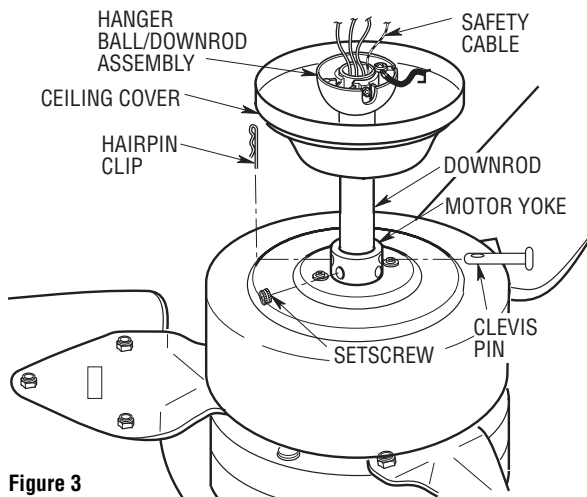

Figure 3
- 4. Route the three motor leads and the safety cable through the center hole in the ceiling cover and position the ceiling cover over the motor yoke (Figure 3).
- 5. Separate, untwist and unkink the three motor leads and the safety cable, then route them through the hanger ball/downrod assembly and seat the downrod in the motor yoke (Figure 3).
- 6. Align the clevis pin holes in the downrod with the holes in the motor yoke. Install the clevis pin and secure with the hairpin clip (Figure 3). The clevis pin must go through the holes in the motor yoke. It is critical that the clevis pin in the motor yoke is properly installed and the setscrews securely tightened. Failure to verify that the pin and setscrews are properly installed could result in the fan falling.
It is critical that the clevis pin in the motor coupling is properly installed and the setscrews securely tightened. Failure to verify that the pin and setscrews are properly installed (as shown in Figure 3) could result in the fan falling.
- 7. Install two setscrews (previously removed in Step 2) in the motor yoke (Figure 3). While pulling up on the hanger ball, securely tighten both setscrews using the setscrew wrench (supplied).